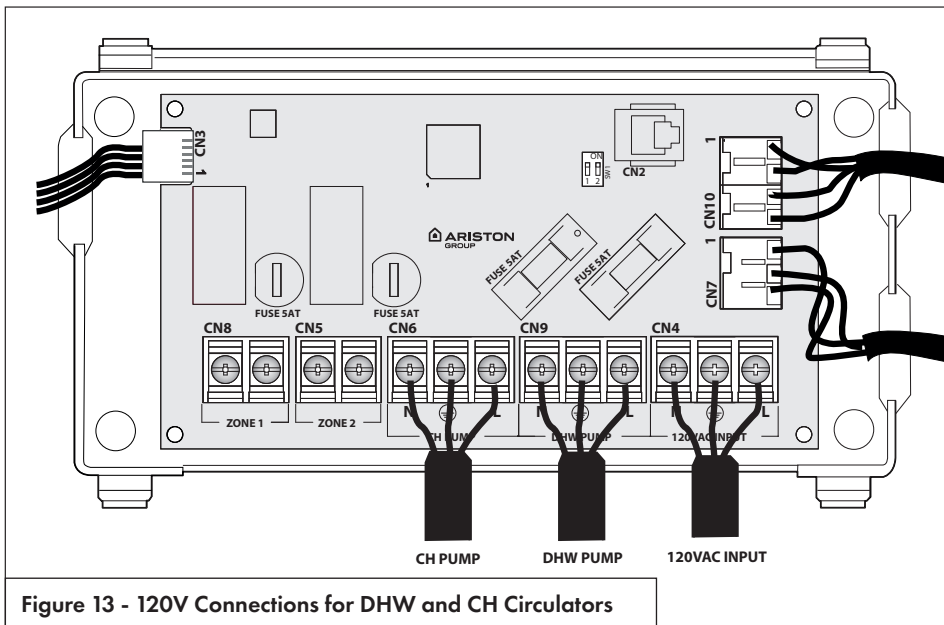

Figure 13 - 120V Connections for DHW and CH Circulators
6. Connect the field wiring to the respective output; see Figure 13.